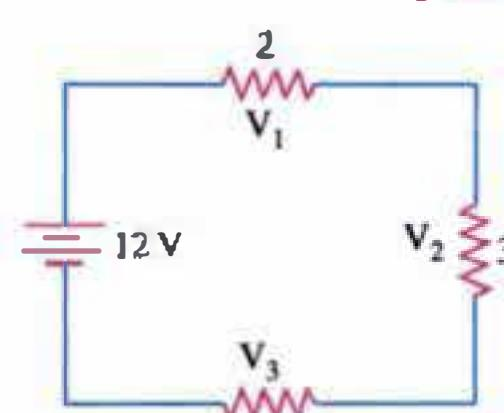

Fig. 2.36
2. Calculate voltage drops across the three series-connected resistors in Fig. 2.36. All values are in kilohm.